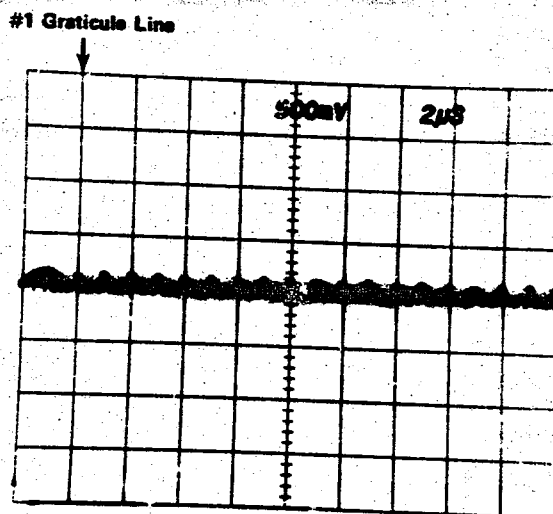

Fig. 7-7. Setting of Leadtime and Registry.
- Alternately push and release the SWP pushbutton and check that the first narrow time marker remains between 0.0 and 1.1 divisions from the left edge of the graticule (see Fig. 7-7).
- Turn R472 (see Fig. 7-3) to the clockwise extreme, then adjust counterclockwise until a marker is centered on the number one graticule line (see Fig. 7-7).
- Adjust R230 (see Fig. 7-3) so that the first narrow marker (see Fig. 7-7) is precisely centered on the number one graticule line.
- Check that there are two markers per division and that every second marker is within 0.3 division of the corresponding major graticule line for the first through the ninth division (see Fig. 7-7).